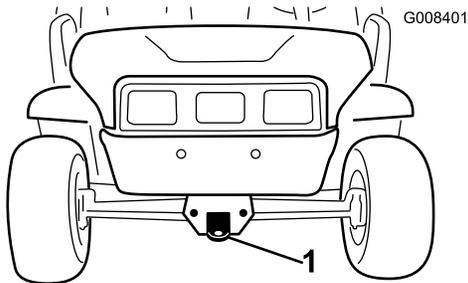
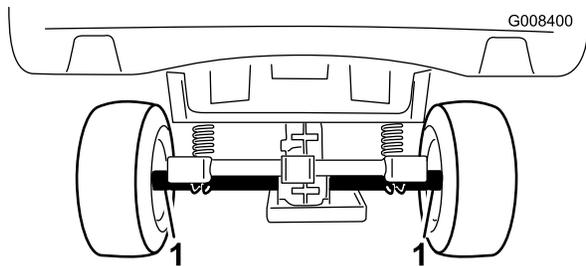

Figure 22
Figure 23
Use a trailer with full-width ramps to move the machine a long distance. Make sure that the machine is securely bound to the trailer. Refer to Figure 22 and Figure 23 for the location of the tie-down points on the machine.
2. Affix a tow line to the tongue at the front of the machine's frame (Figure 22).